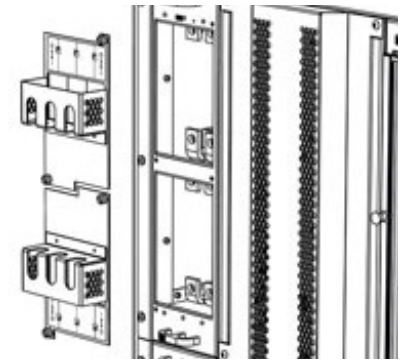

Figure 28. Remove Breaker Shield(s)
- Step 2.** Remove breaker shield(s) from GJ breaker panel by loosening the captive thumbscrews (see Figure 28).